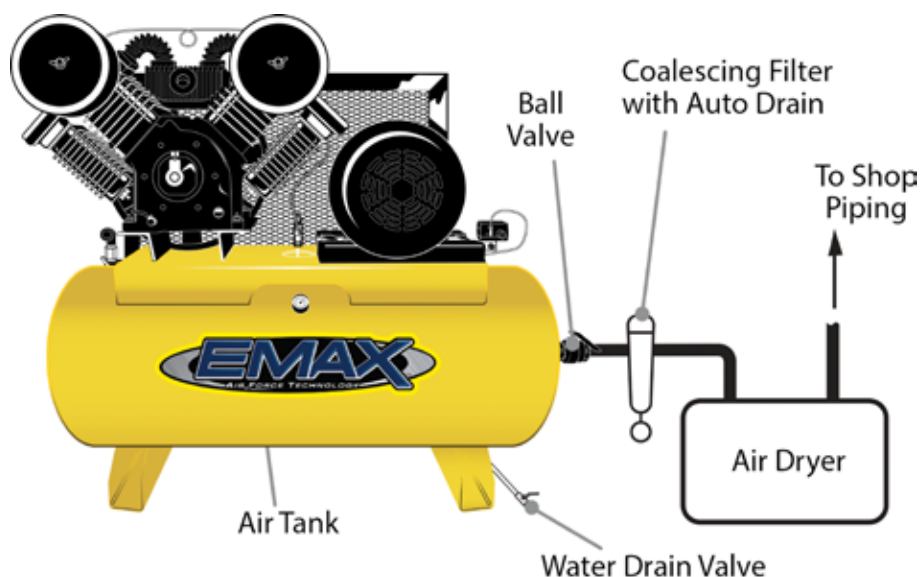
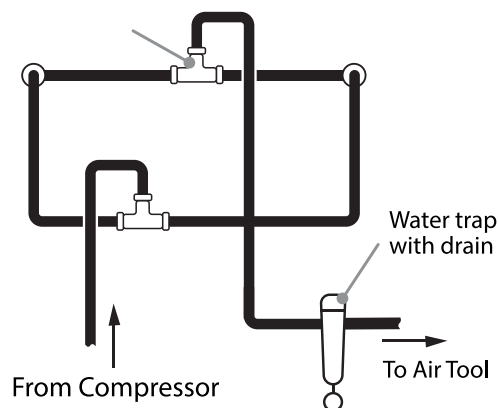

Figure 2: Basic Piping Diagram
Figure 3: Closed Loop Installation
4. Install appropriate ASME code safety valves and make sure piping system is equipped with adequate condensate drains. See figure 2. Refer to figure 3 for recommended closed loop installation.